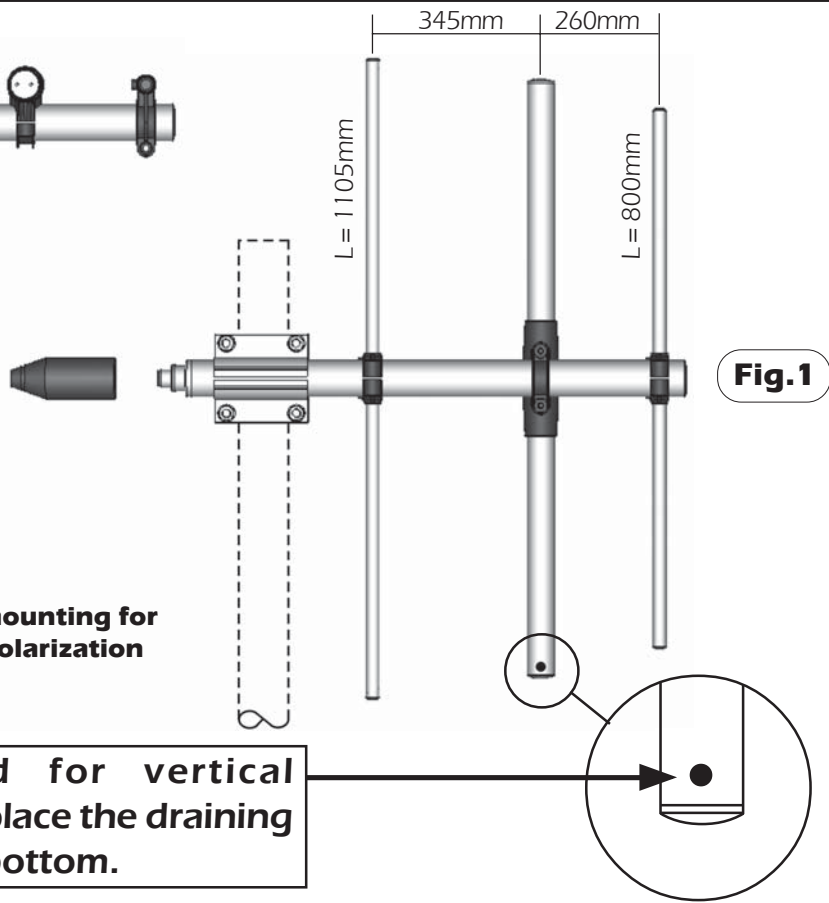

Fig.1
- 1) By means of a meter measure the aluminium elements **A** and position them in the plastic support **B** of the boom according to **fig. 1**.